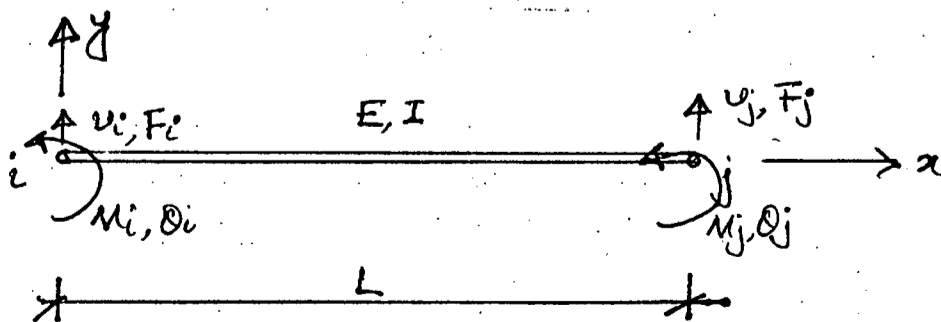

Fig. 2
- 5. (a) Summarize the basic procedural steps that are followed in FEM for analyzing a structure. (6)
- (b) Approximate the area of a circle by dividing it into a number of triangles. In this process show that  $S_N = \pi R^2$  when  $N \rightarrow \infty$ . Where  $R$  = radius of the circle,  $N$  = number of triangles,  $S_N$  = area of the circle. (12)
- 6. (a) Discuss with sketches four major discontinuities that may exist in a real structure and the necessity of considering those in discretizing a structure. (12)
- (c) What are the fundamental assumptions in analyzing a structure as a linear elastic problem? (4)
- 7. (a) Explain the term "shape functions". Why polynomial terms are preferred for shape function? (12)
- 8. (a) Introduce reasonable shape functions for a two noded beam element (Fig. 2) and derive the element stiffness matrix. (11 1/3)
3. (a) Discuss on effective net area and block shear failure of a tension member. (8)
- (b) Determine the allowable load carrying capacity of the tension member shown in Fig. 2. Use A36 steel. (15 1/3)
4. (a) A flat bar ( $\frac{1}{4} \times 6$ ) used as a tension member is connected to a gusset plate of  $\frac{3}{8}$  inch thickness. The connection is made with 5 inch transverse weld length and 6 inch longitudinal weld length at each side of the member. The gusset plate is A992 steel and the member is A36 steel. The welds are  $\frac{3}{16}$  inch fillet welds made with E70XX electrodes. Determine available strength of weld connection. (10)